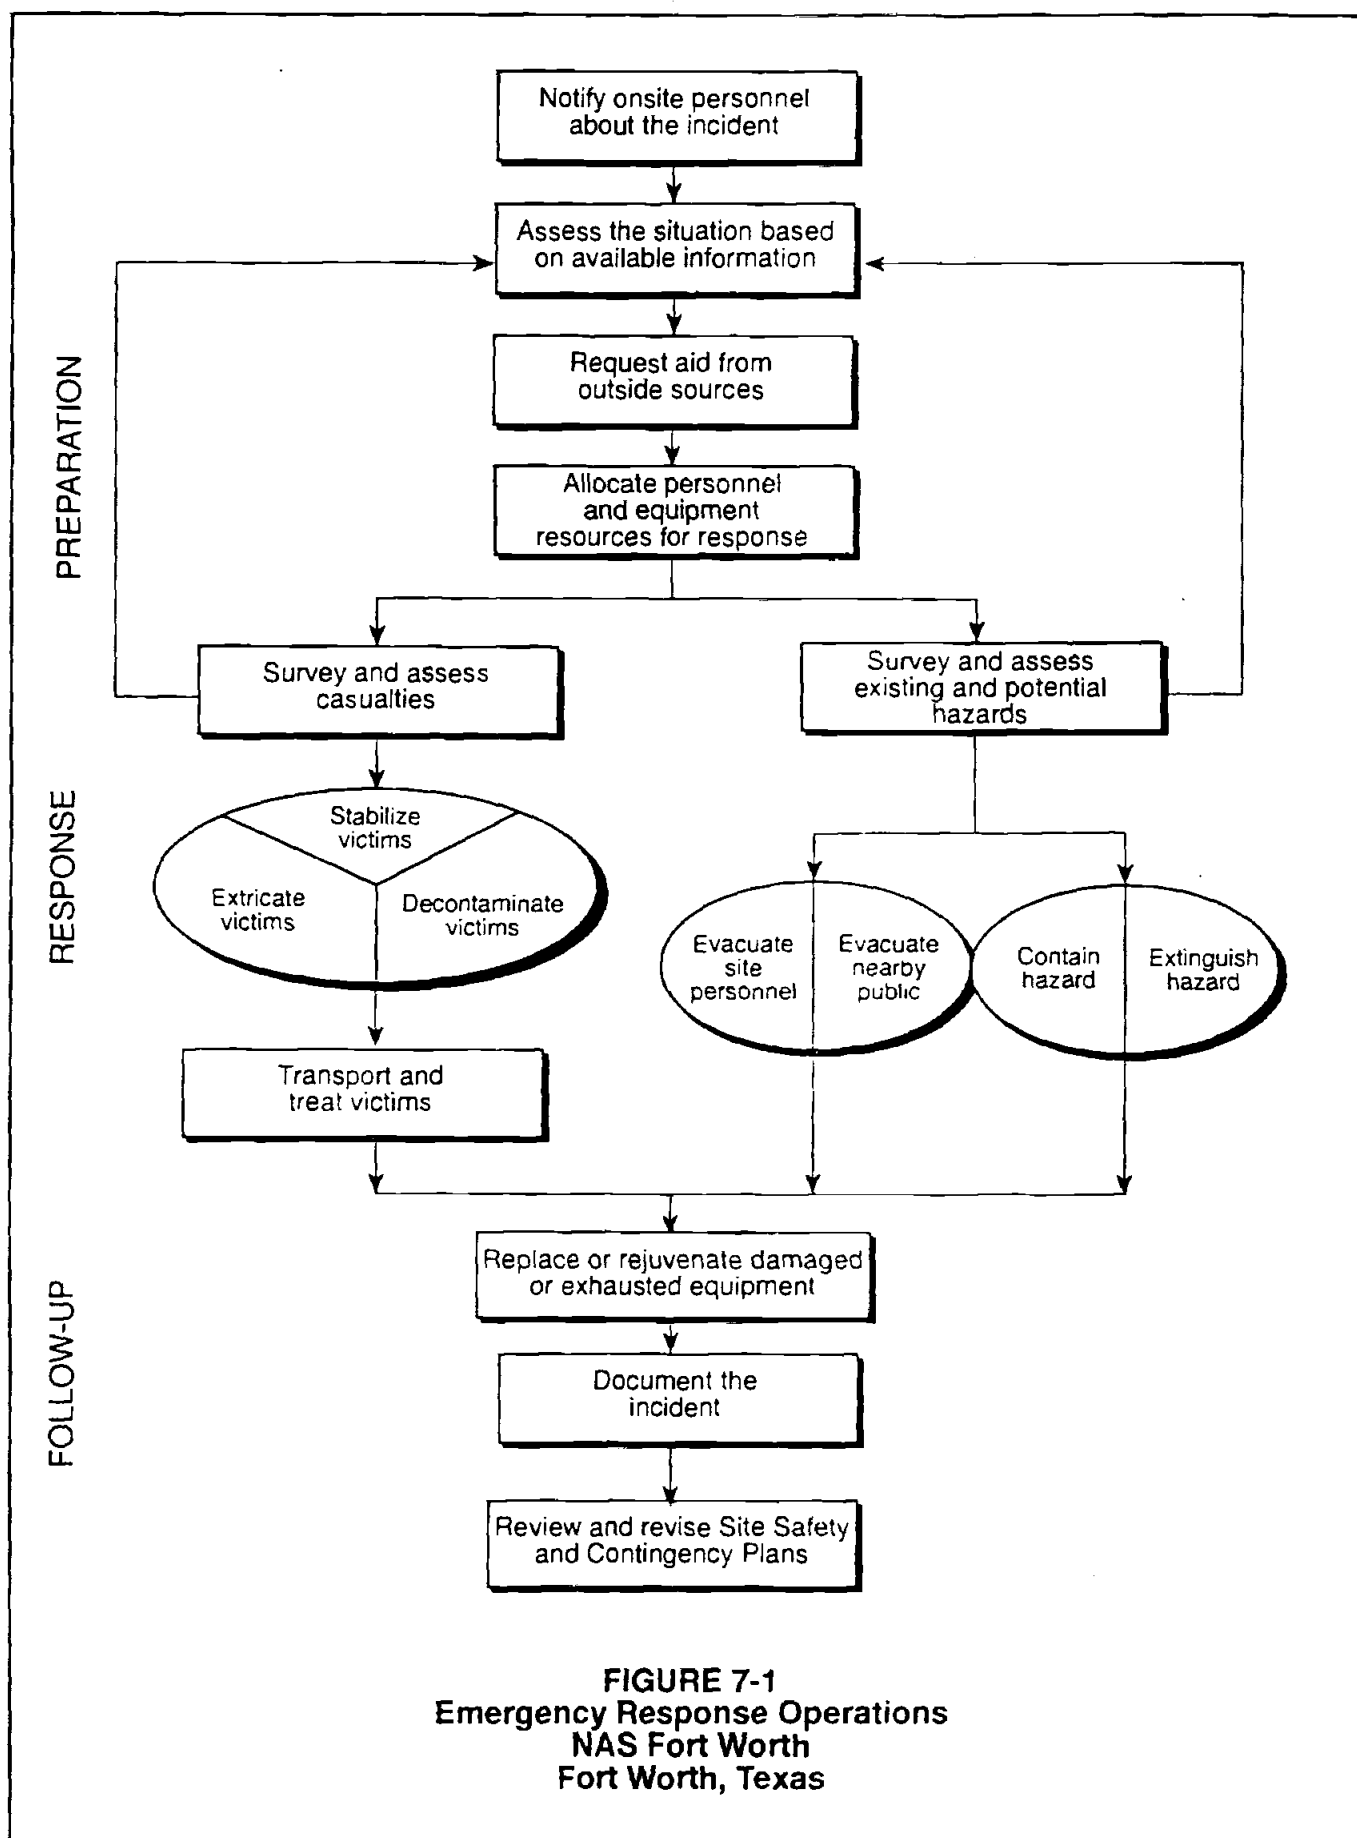

FIGURE 7-1
- refers also to Figure 7-1, which shows a typical emergency response operations flow diagram.